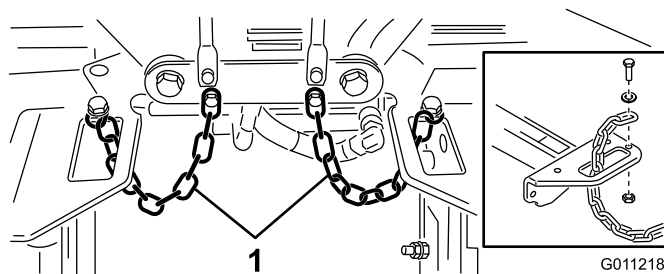

Figure 22
4. Route a tipper chain up through the slot on the end of each carrier frame. Secure the tipper chain to the top of the carrier frame with a bolt, a washer, and a locknut (Figure 22).